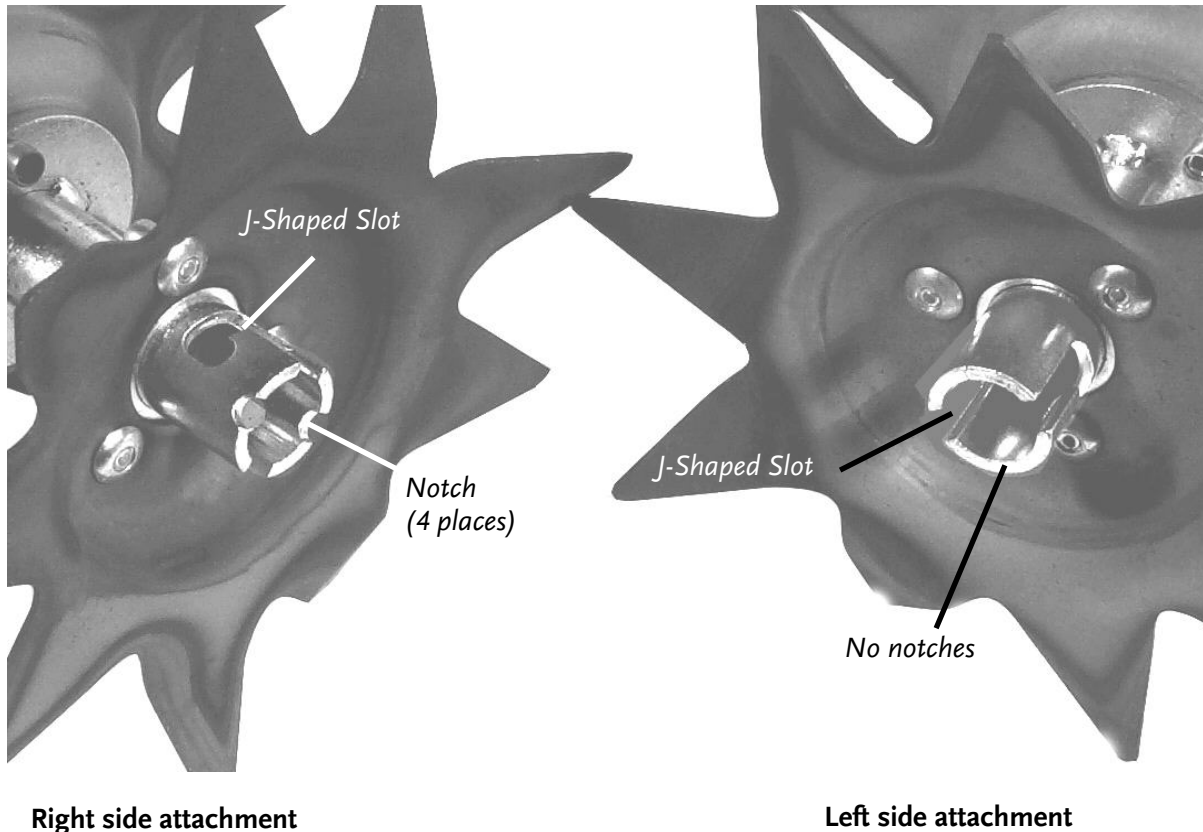
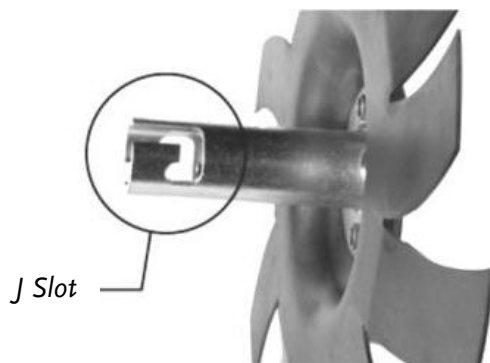
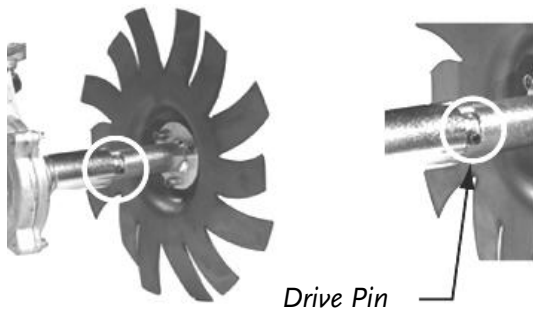
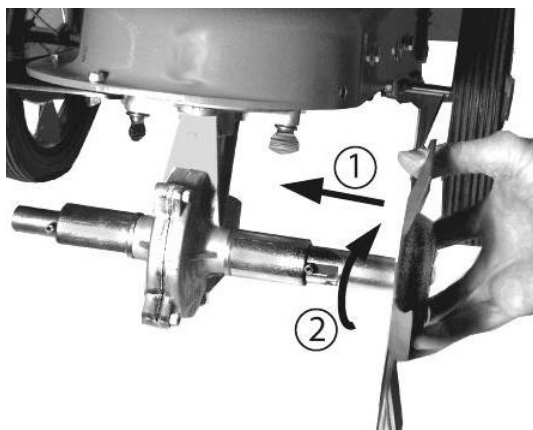

Figure 6
Figure 7
Figure 8
Figure 9
Each attachment has two slots in the axle that ends in a J feature. The shafts that install on the side of the transmission marked with an R have a semi-circular notch in the end of the shaft by the slot. The shafts that install on the side of the transmission marked with an L do not have this notch (**Figure 6**).
1. Install the Edger on the Trimmer's left by sliding the Edger's axle over the shaft of the transmission, rotating the Edger to align the J-slot in the axle (**Figure 7**) with the drive pin (**Figure 8**) and pushing the Edger axle toward the transmission (**Figure 9**).
2. When the Edger axle is inserted completely, rotate the Edger clockwise until it reaches the end of the J-slot (**Figure 9**).
THE CULTIVATOR AND AERATOR HAVE CAPS ON THE OUTSIDE ENDS: A RED CAP ON THE RIGHT AND A BLACK CAP ON THE LEFT. BE SURE TO INSTALL THE RED-CAPPED END ON THE RIGHT SIDE OF THE TRANSMISSION AND THE BLACK-CAPPED END ON THE LEFT SIDE OF THE TRANSMISSION. INSTALLING THE ACCESSORY INCORRECTLY CAN CAUSE THE ATTACHMENT TO COME OFF DURING OPERATION. SEE *FIGURE 6* ON PAGE 10 FOR A DESCRIPTION OF THE DIFFERENCES BETWEEN THE RIGHT & LEFT HAND ATTACHMENTS.
Note: The right side attachments have a red cap and 2 semi-circular notches in the axle (see *Figure 6 on page 10*). There is a spring that you will compress as you push the attachment onto the shaft until the drive pins bottom on the slot in the attachment's axle. This will require a fair amount of force to overcome the spring tension.
Note: The attachment's left axle has a black cap and does not have a semi-circular notch at the end of the axle near the J-slot (see *Figure 6 on page 10*).
1. When transporting the DR TRIMMER/MOWER with the Edger attachment (*see Figure 1*) to the site where you wish to use it, be sure to push down on the handlebars to raise the Edger so that it does not scrape along the ground. If the Edger scrapes along the ground or is bumped, it may unlock from the PTO and rotate backwards. This may cause the Edger to fall off of the PTO. If the Edger is installed on the operator's right side, it may also unlock and loosen during use. The Edger must be installed on the operator's left side for proper functioning of the Edger (*see Figure 8*).
TINES WILL NOT TURN.	<ul style="list-style-type: none"> ⇒ THE SHAFT EXTENSION IS MISSING. SEE PAGE 9, FIGURE 3. ⇒ THE TINES ARE IN BACKWARDS. SEE PAGE 10, FIGURE 6. ⇒ THE TRIMMER BELT MAY NEED TO BE REPLACED. SEE THE DR TRIMMER/MOWER SAFETY & OPERATING INSTRUCTIONS MANUAL FOR MORE INFORMATION. ⇒ IF THE PROBLEM PERSISTS, CALL 1(800) DR-OWNER (376-9637) FOR ASSISTANCE. ⇒
TINES FALL OFF.	<ul style="list-style-type: none"> ⇒ THE PTO IS INSTALLED BACKWARDS. SEE PAGE 9. ⇒ THE TINES ARE REVERSED. SEE PAGE 10, FIGURE 6. ⇒ THE TINES ARE NOT LOCKED IN PLACE. SEE FIGURE 8 OR 13. ⇒ THE TINES ARE ROLLED ACROSS THE GROUND SURFACE WHILE NOT BEING DRIVEN. ⇒ IF THE PROBLEM PERSISTS, CALL 1(800) DR-OWNER (376-9637) FOR ASSISTANCE.